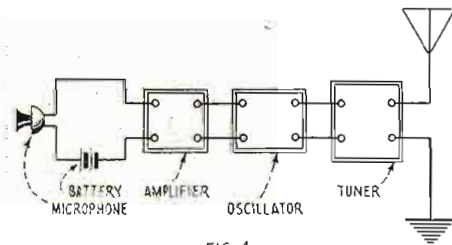
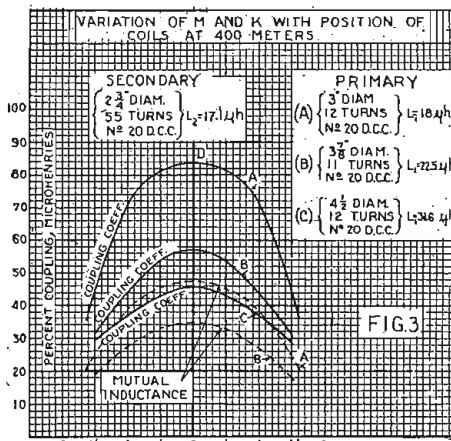

FIG. 4
FIG. 3 These curves show actual values obtained by measurements made on ordinary antenna coupling coils.
Fig. 4 Complete circuit diagram of 3-tube Regenerative Interflex Circuit. (1) is the Flexo-Coupler, (2) crystal detector, (3) variable condenser, (4) Small balancing condenser, (5) detector-coupled audio amplifier tube, (6) second audio tube, (7) third audio tube, (8) and (9) filament control jacks, (10) Amperites, (11) audio transformers, (12) fixed condenser, (13) carbon type rheostat.
Figs. 4, 5, 6, 7 and 8 show the complete set. Fig. 4 shows the complete wiring diagram. This is exactly the same as the fundamental circuit shown in Fig. 1, except that there has been added a two-step amplifier, with two automatic filament controls. For the two last amplifier tubes the automatic resistances 10 are excellent, rheostats not being necessary at all.
Fig. 4. An interesting feature of this circuit is the fact that each of the R.F. stages has its plate supply by-passed to the filament through a .5 mf. condenser.
Fig. 4 gives a schematic layout of the various instruments used in transmitting by radio telephony.
a physical conception of these ideas, let us see what values the coefficient of coupling may have in our radio tuning units. An ordinary antenna coupling coil was constructed, as shown in Fig. 7. The mutual inductance between the primary and secondary was measured for various positions of the primary on the secondary. The self-inductances of the two coils were also measured and, by means of the formula given above, the coefficient of coupling was calculated. The chart in Fig. 3 shows plainly the results obtained.
Another set of coils was measured, using the same secondary, but having a larger diameter for the primary coil. The same number of turns was used on the primary. The effect of the increased diameter can also be seen in Fig. 3. The effect of the increased diameter is to lower considerably the mutual inductance and coefficient of coupling.
To investigate further the effect of the primary diameter on the coupling, the curves shown in Fig. 4 were computed. The same secondary coil as used in obtaining Fig. 3 was assumed, having a self-inductance of 164.2 microhenries, and calculations were performed, various primary coils of different diameters but of the same number of turns being assumed.
In these curves (Fig. 4) the primary coil was always at the center of the secondary, that is, their center lines coincided. The calculations were started, with the assumption that the primary coil was to have always 12 turns of number 20 D.C.C. wire on it. The diameter of the primary was taken as small at first and gradually increased. The line AB in Fig. 4 indicates a case where the primary has the same diameter as the secondary. Of course, this is physically impossible, but the point is indicated to show where the maximum value of mutual inductance and coefficient of coupling are obtained.
There is a discrepancy between the curves in Figs. 3 and 4 which I would next like to point out, and which is very important in the design of coupling coils. To illustrate
the point, let us consider the curve marked A in Fig. 3, and the curve marked C in Fig. 4. The first of these curves was found experimentally, and the second was calculated. The secondary coil was the same for each of these curves. The primary coil for curve A, Fig. 3, was 3 inches in diameter, and was placed at the center of the secondary.
The curves in Fig. 4 assumed the primary always at the center of the secondary. Therefore, it will be seen, by following the dotted line vertically in Fig. 4, that for a primary diameter of 3 inches the coefficient of coupling obtained from the curve is 65.5 per cent. This is indicated at the point C in Fig. 4. The measured value of the coupling, obtained from the point D in Fig. 3, is 84 per cent. There is a considerable difference between these two values, which must be due to the capacity of the coils and the capacity between the two coils.
This zero value of frequency corresponds to direct or constant current. The mutual inductance at zero frequency is the true mutual inductance, for at zero frequency the effect of the capacity between the coils is nil. The agreement between the value indicated by the point A in Fig. 5 (the mutual inductance at zero frequency) and the calculated value indicated by the point D of Fig. 4 is very good. In fact, both points show a value of 35.5 microhenries for the mutual inductance. The curves of Fig. 4 were calculated without including the capacity of the coils, which, of course, is not known exactly.
The point A, at zero frequency, agrees with the calculated point D of Fig. 4. Note that M increases with the frequency.